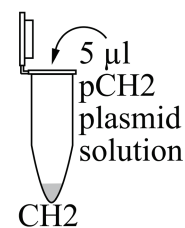

Fig. 15
9. Using a P20 micropipette and a sterile tip, add 5 μ l pCH2 plasmid solution to tube “CH2” (Fig. 15).